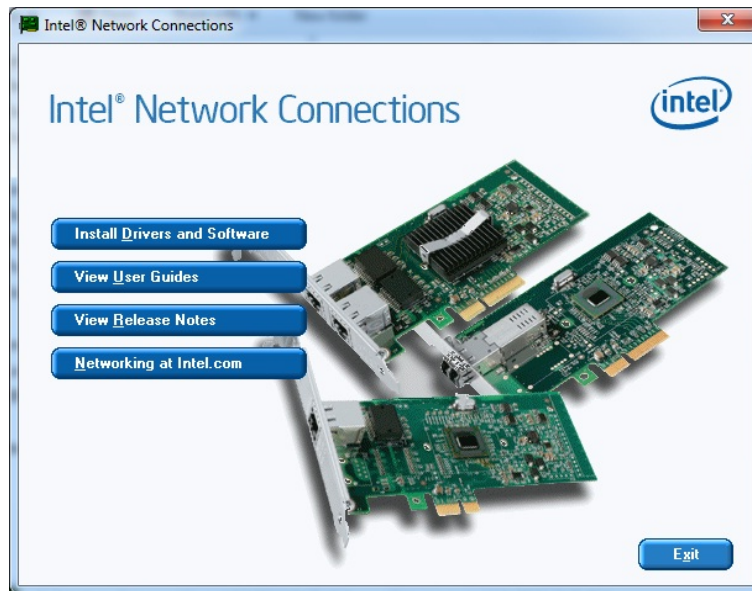

Figure 6-13: Intel® Network Connection Menu
Step 5: The Intel® Network Connection menu in **Figure 6-13** appears.